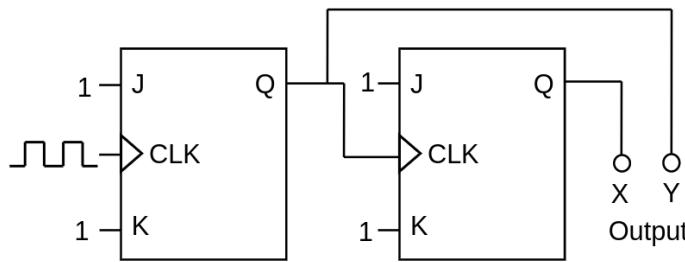

Fig. 5.28
28. The circuit shown in Fig. 5.28 below uses ideal positive edge-triggered synchronous J-K flip flops with outputs X and Y. If the initial state of the output is $X=0$ and $Y=0$, just before the arrival of the first clock pulse, the state of the output just before the arrival of the second clock pulse is _____